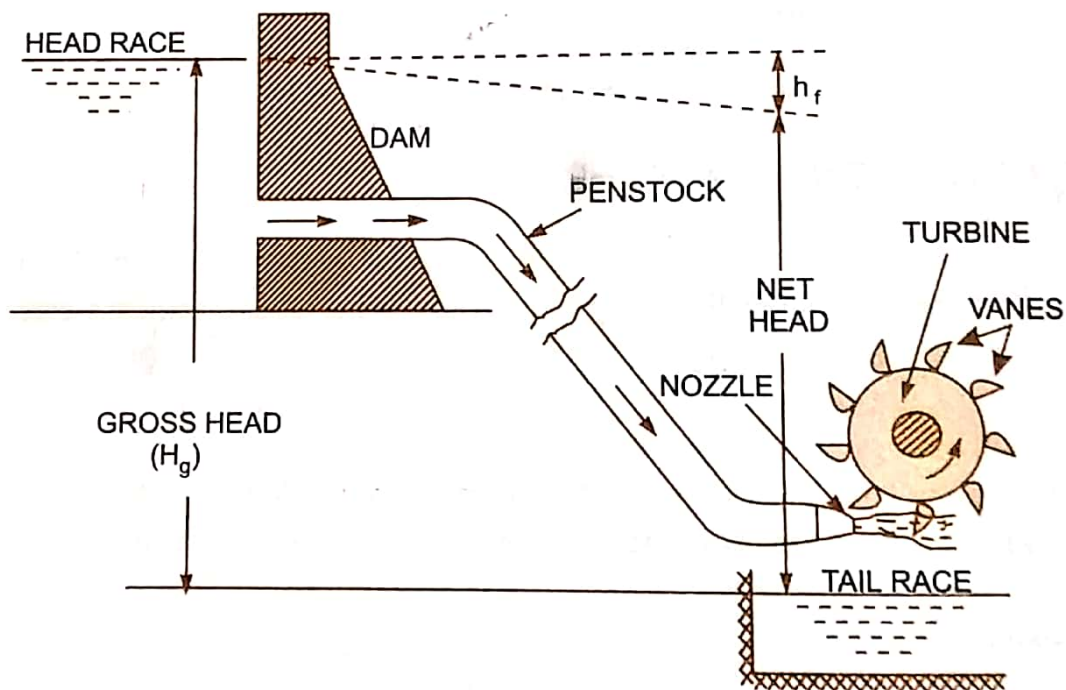

Fig. 18.1 Layout of a hydroelectric power plant.
Fig. 18.1 shows a general layout of a hydroelectric power plant which consists of :
1. **Gross Head.** The difference between the head race level and tail race level when no water is flowing is known as Gross Head. It is denoted by ' H_g ' in Fig. 18.1.
Fig. 18.1 shows the layout of a hydroelectric power plant in which the turbine is Pelton wheel. The water from the reservoir flows through the penstocks at the outlet of which a nozzle is fitted. The nozzle increases the kinetic energy of the water flowing through the penstock. At the outlet of the nozzle, the water comes out in the form of a jet and strikes the buckets (vanes) of the runner. The main parts of the Pelton turbine are :